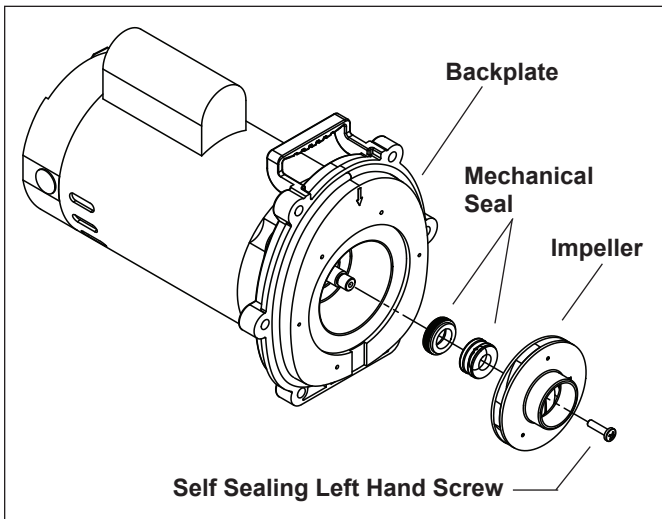

Figure 9. Remove the Impeller
8. Hold the exposed motor shaft with a ½" wrench and remove the impeller center screw using a No. 2 Phillips screwdriver. Turn the left-hand-threaded screw clockwise to loosen it. See Figure 9.